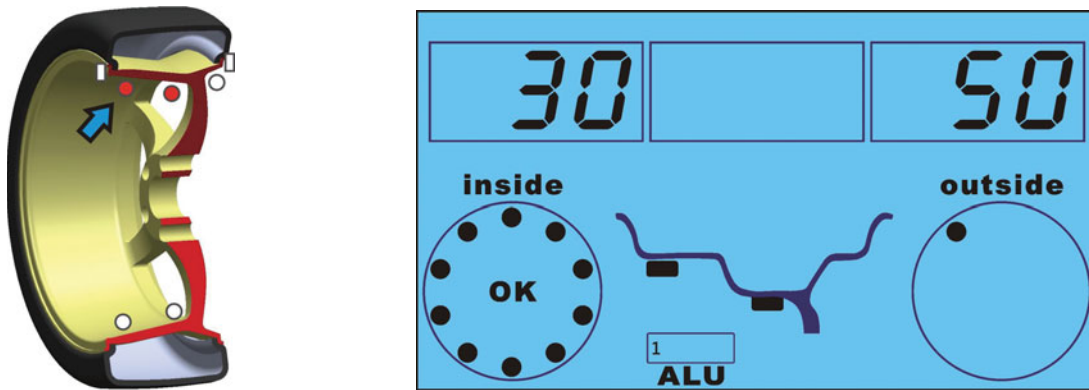

Fig. 7
4.2.6. Anticlockwise moving wheel slowly, the displays with left LED's lit up full indicate the correct angular position where to mount the counterweights, 12 o'clock position inside, as Fig.7, add the counterweight.